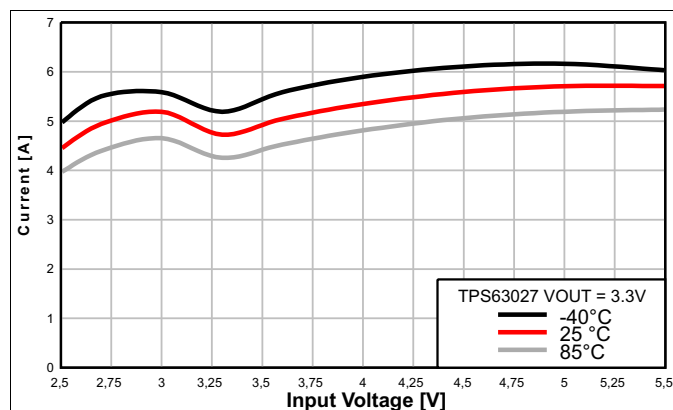

Figure 6. Average Input Current vs Input Voltage
Given the curves provided in Figure 6, it is possible to calculate the output current reached in boost mode, using Equation 1 and Equation 2 and in buck mode using Equation 3 and Equation 4.
- $I_{IN}$  = Minimum average input current (Figure 6)
- (4)